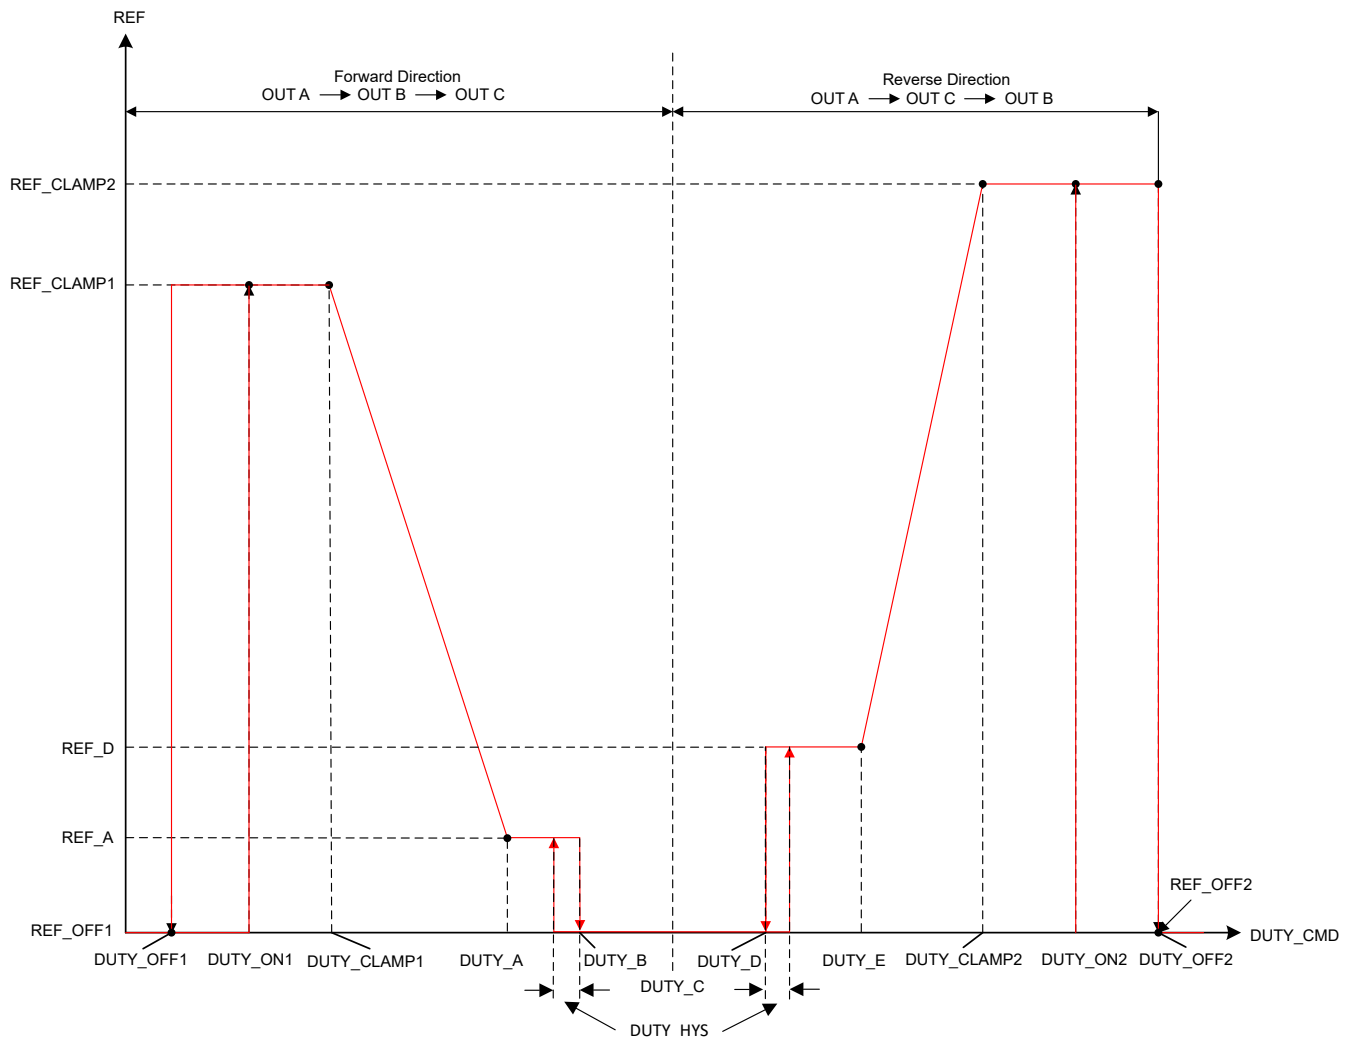

Figure 7-13. Forward Reverse Control Profiles
- DUTY_OFF1 and DUTY_ON1 configures a hysteresis around reference control input REF_CLAMP1 and REF_OFF1 as shown in Figure 7-13.
- DUTY_A configures the duty command for reference REF_A. The reference changes linearly between DUTY_CLAMP1 and DUTY_A. DUTY_A to DUTY_E has to be in the same order as shown in Figure 7-13.
- DUTY_OFF2 and DUTY_ON2 configures a hysteresis around reference control input REF_CLAMP2 and REF_OFF2 as shown in Figure 7-13.